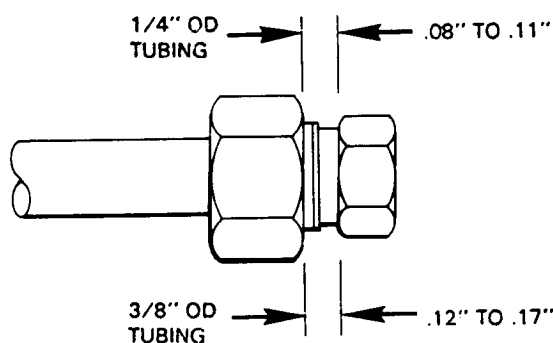

Figure 9-8. Tolerances, Union Nut and Tubing Nut
- e. After torquing each fitting, measure the distance between the face of the union nut and face of tubing nut. Refer to Figure 9-8 for tolerance.
- a. If fittings show evidence of galling, or does not meet the dimensional requirements of Figure 9-8 or continues to leak after being tightened, it must be repaired.